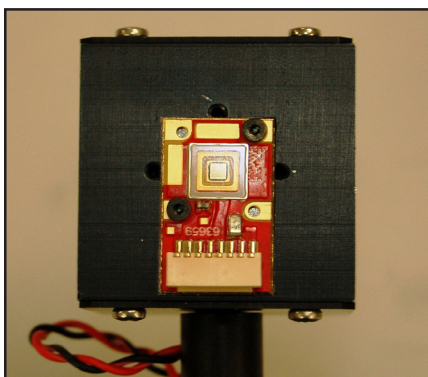

Figure 9: LED mounted on heat sink
4. Insert screws in the holes of the coreboard and tighten. To ensure equal pressure is exerted by all screws, alternate tightening each screw until the board is securely fastened. The device is now mounted and ready for electrical connections (Figure 9).